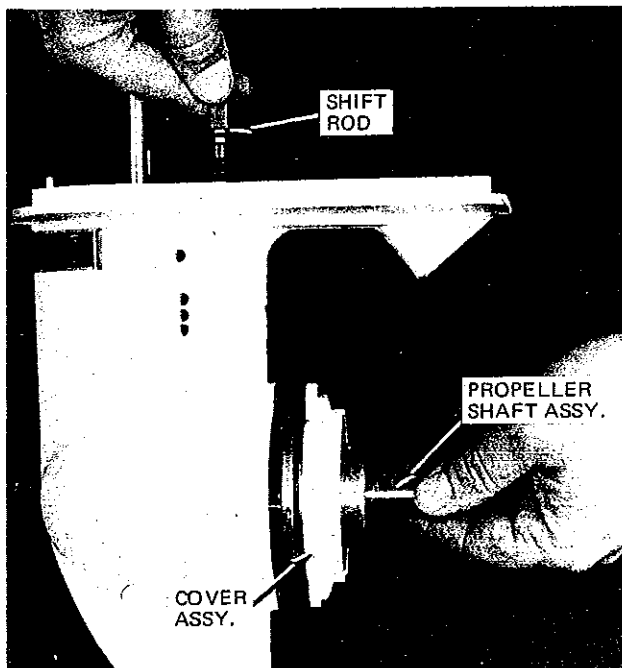

Figure 6. Pry cover out.
E. Use a 3/8-inch socket wrench to remove the two hex washer-head cap screws that secure the cover assembly into the gear housing assembly, and then pry out the cover assembly approximately 1/2 inch (Figure 6).